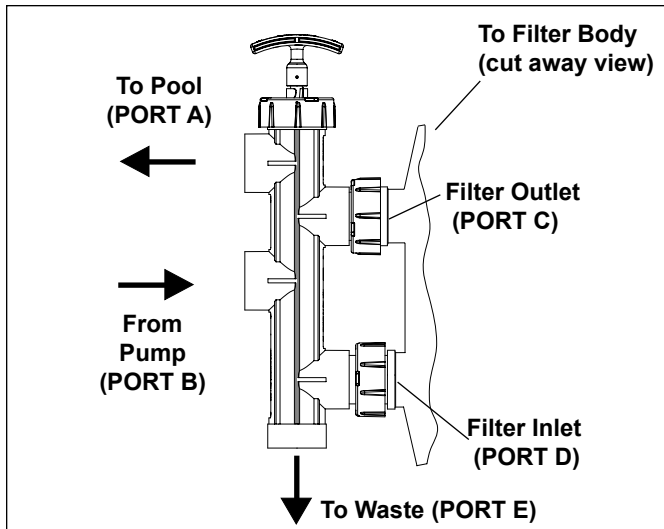

Figure 3. SVLV8 Installed on Jandy DEL48 or (DEL60)
5. Hold the Slide Valve upright and place onto the filter bulkheads (see Figure 3).